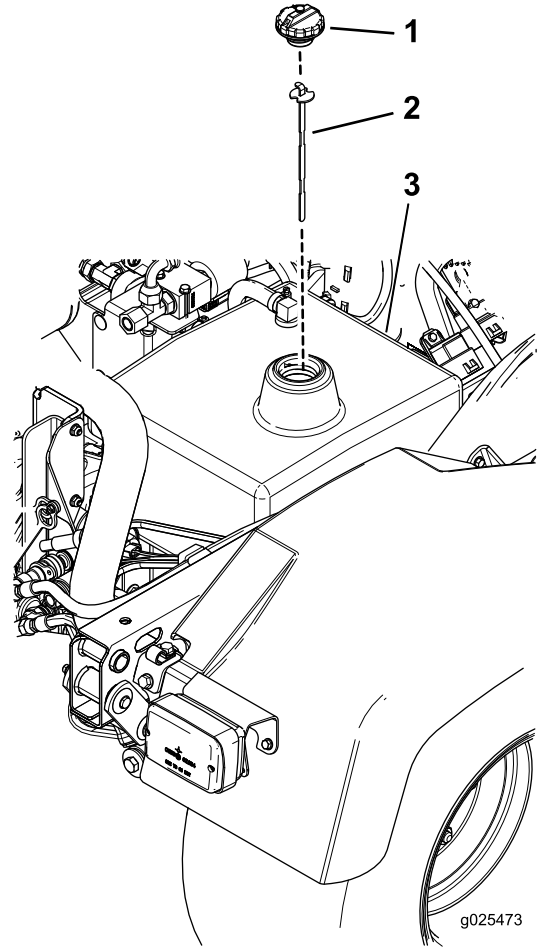

Figure 22
1. Clean the area around the filler neck and the cap of the hydraulic tank (Figure 22). Remove the cap from the filler neck.
2. Remove the dipstick (Figure 22) from the filler neck and wipe it with a clean rag. Insert the dipstick into the filler neck; then remove it and check the fluid level. The fluid level should be between the two marks on the dipstick.